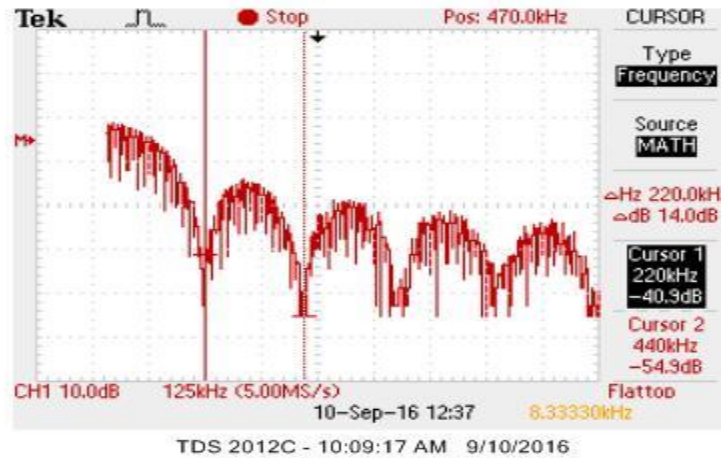

Figure 3: Spectrum of the sampling signal
- a) Recovery of the original signal from its samples requires the samples to be filtered by a low pass filter. Use the connection diagram in Figure 3. Adjust the cutoff frequency of tunable LPF to recover the continuous signal.